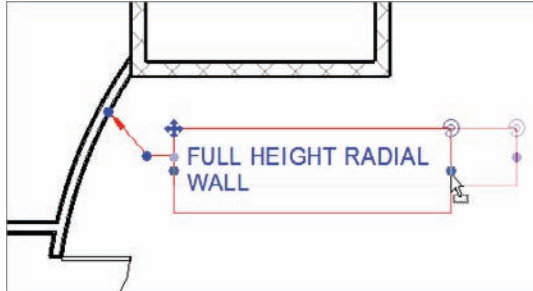

FIGURE 5.54 Wrapping the text by using the right grip
3. Stretch the text window to the left until it forces the text to wrap, as shown in Figure 5.54.